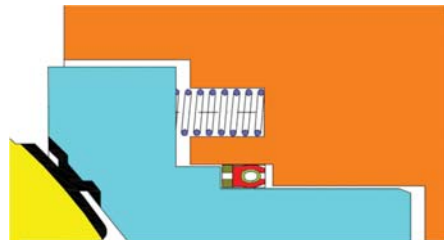
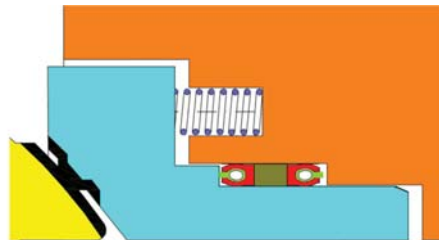

Figure 16.
Figure 17.
decompression (ED), also called rapid gas decompression. Due to this problem lip seals are more commonly used as the radial seal on the seats. Figure 16 illustrates a double piston construction on the seat, but the seat is actually working as a self-relief seal as the pressure escapes between the seat and the seat pocket whilst the seat seal surface is in contact with the ball at all times.
When using a lip seal as the radial seal on the seats used in a DPE / SPE ball valve construction you will normally find one seat with one seal and one seat with two seals as illustrated in Figures 16 and 17. The Figure 17 seat will act as the downstream seat and the Figure 16 as the upstream seat.